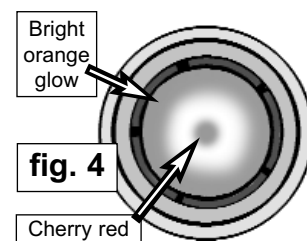

fig. 4
- a) **NORMAL** CHERRY RED IN THE MIDDLE PROGRESSING TO AN ORANGE ON THE OUTSIDE RIM OF THE DOME (see fig.4).